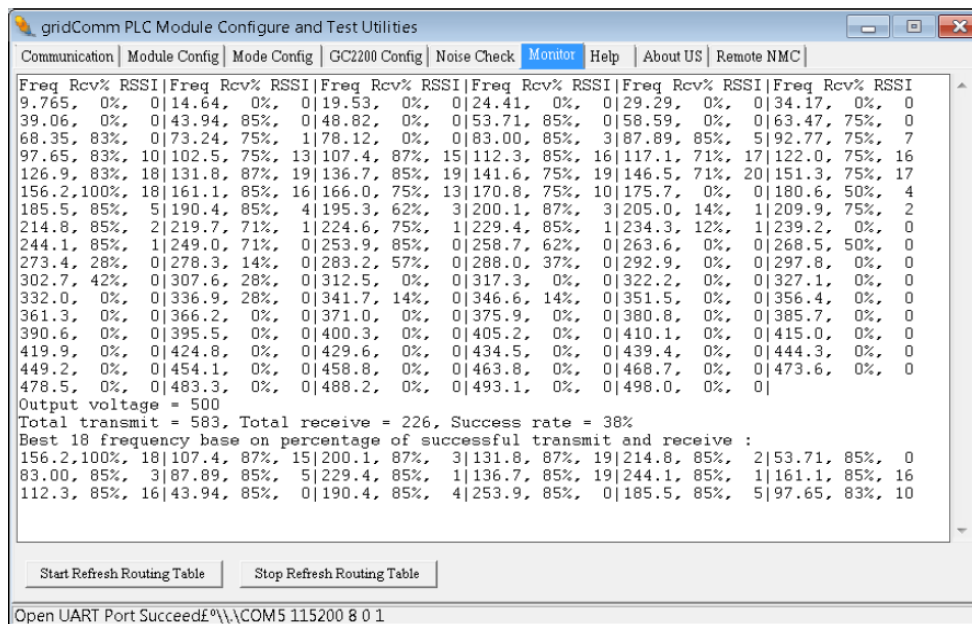

Figure 9 – Frequencies versus Received Success Rate and RSSI Values
Under “Monitor” tab, “Freq” shows the carrier frequency in KHz, “Rcv%” shows the percentage of packets received over packets transmitted and “RSSI” which indicates the signal strength of the respective frequency. The RSSI and Rcv% may be used to determine the best frequencies for communications. In general, the higher the RSSI value, the higher the chance of successful communications. However, as shown in Figure 9, there are instances where low RSSI values correspond with higher success rates. This is possible if there are less noise or interference over these frequencies.
- viii. Observe results under “Monitor” tab as in Figure 9.